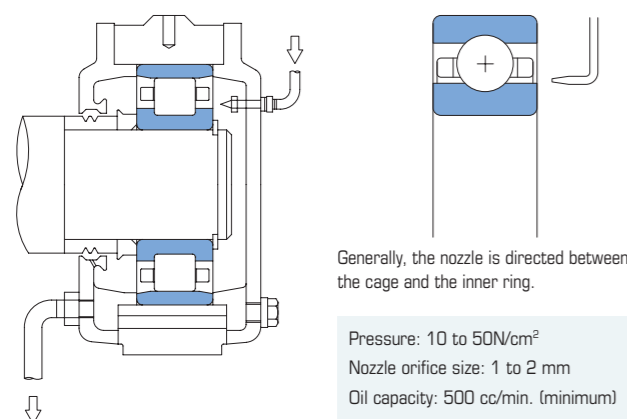

Figure 6.1 Jet Lubrication Example
- ① Forced lubrication (jet lubrication)
- Figure 6.1 shows an example of jet lubrication.